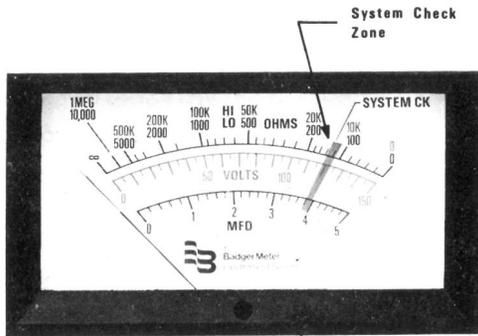

Figure 6 - Console Test Meter with SYSTEM CK Zone Identified
3. Press the SYSTEM CHK pushbutton, leaving it pressed during steps "a" through "c" below. The meter should indicate 120 VDC, in the green SYSTEM CK area on the meter scale. (Figure 6).